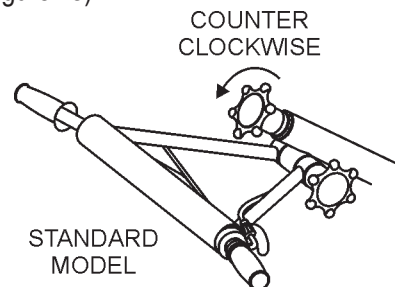
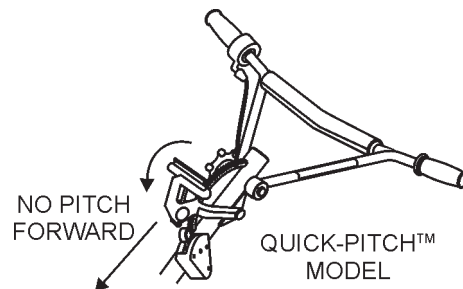

Figure 12. "No Pitch" Position (Standard)
Figure 13. "No Pitch" Position (Quick-Pitch™)
1. Expose the pitch cable to maximum by adjusting the handle pitch to the "no pitch" position. On the standard model turn the pitch control counter-clockwise, (Figure 12). On the Quick-Pitch™ model, pivot the pitch handle forward or no pitch, (Figure 13).